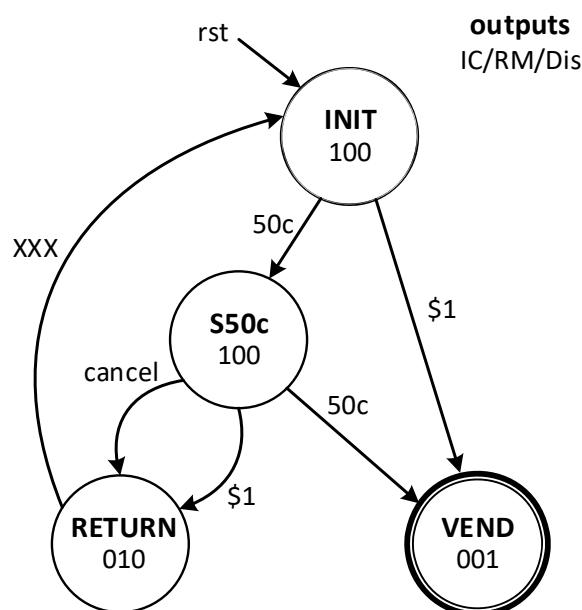

Fig. 2
**Sketch the state diagram** that represents the above behaviour. You should use a Moore machine, where the outputs depend only on the current state. The most straightforward way is to think of the states as representing the amount inserted so far. The end state representing product vending should not have any transitions. We also assume only one input is asserted at any point in time. You should have 4 states in total (one of which is the vending end state). Verify your state diagram is identical to the one given in Fig. 2.